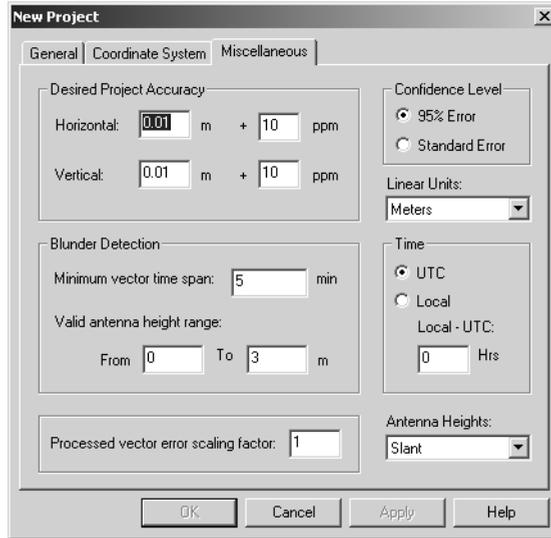

Figure 3.4. New Project Dialog Box — Miscellaneous Tab
- Click **Miscellaneous** to switch to the **Miscellaneous** tab, Figure 3.4.